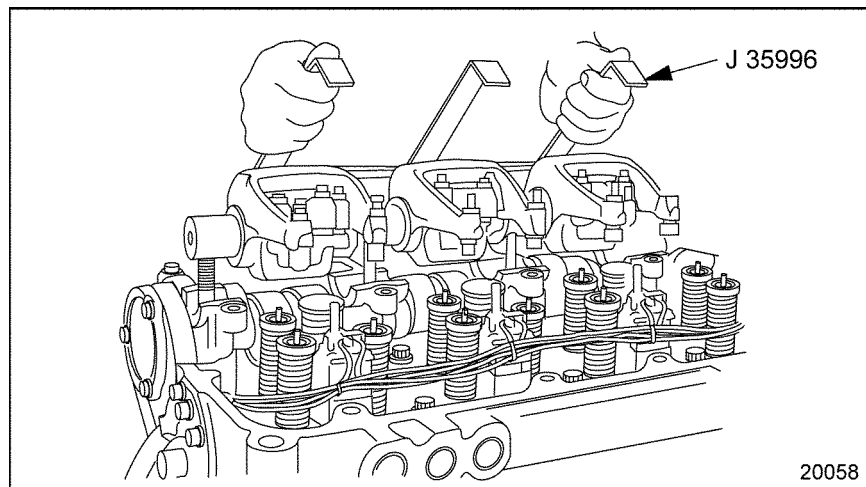

Figure 9-2 Rocker Arm/Shaft Assembly Removal/Installation
7. Remove all the rocker shaft mounting bolts and nut from the front or rear rocker shaft assembly. Using rocker arm lifter (J-35996-A), see Figure 9-2, lift the assembly straight up and off of the head and place in a clean area on the bench.
19. Attach cylinder compression gauge (J-6692-B) to the first adaptor. See Figure 9-2.